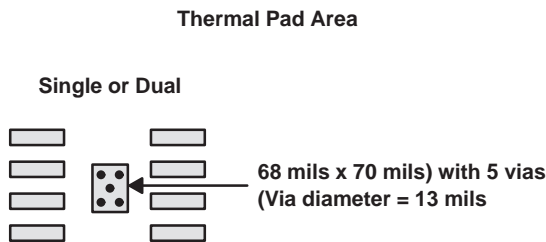

Figure 28. PowerPAD PCB Etch and Via Pattern
1. Prepare the PCB with a top side etch pattern as shown in Figure 28. There should be etch for the leads as well as etch for the thermal pad.